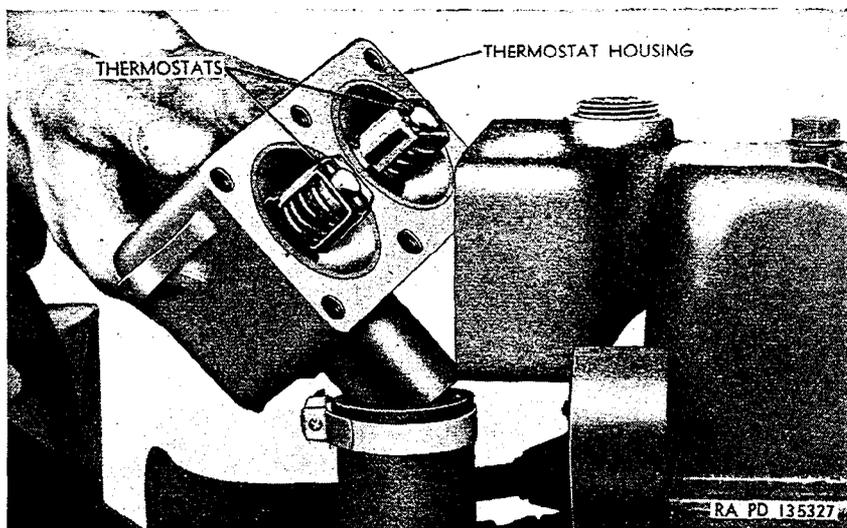

Figure 166. Removing thermostat housing from water outlet header.
e. Thermostats. Two metal bellows-type thermostats (fig. 166), which control the temperature of the coolant in the cooling system